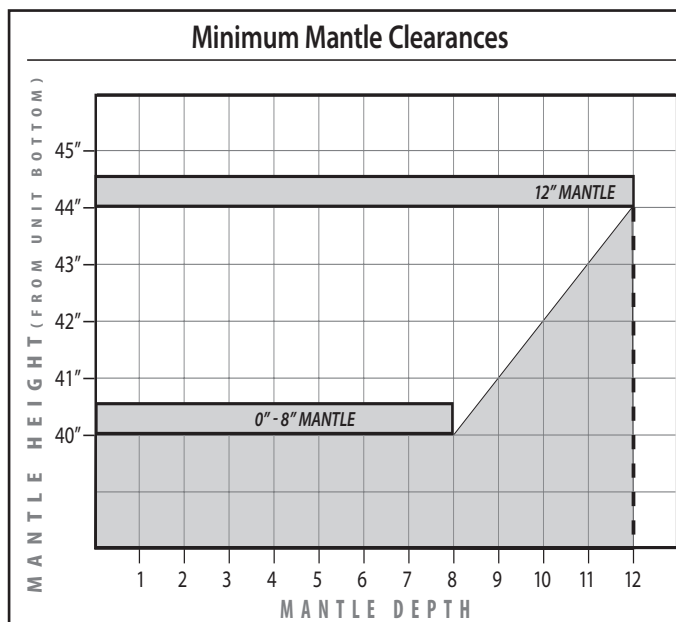

Figure 25: Mantle width and height.
The ENVIRO E44I may be installed and vented into any solid fuel fireplace that has been installed in accordance with the National, Provincial/State and local building codes and has been constructed of non-combustible materials. Before starting, refer to INITIAL INSTALLATION - PREPARING YOUR E44I FOR INSTALLATION. Please reference the information in Table 5 and Figures 25, and 28.
1. Plan your installation and clearances to combustibles. The E44I may be installed and vented into any solid fuel fireplace that has been installed in accordance with the National, Provincial/State and local building codes and has been constructed of non-combustible materials. Also refer to the INITIAL INSTALLATION - PREPARING YOUR E44I FOR INSTALLATION and CLEARANCES TO COMBUSTIBLES sections. Refer to Figure 25 throughout installation.